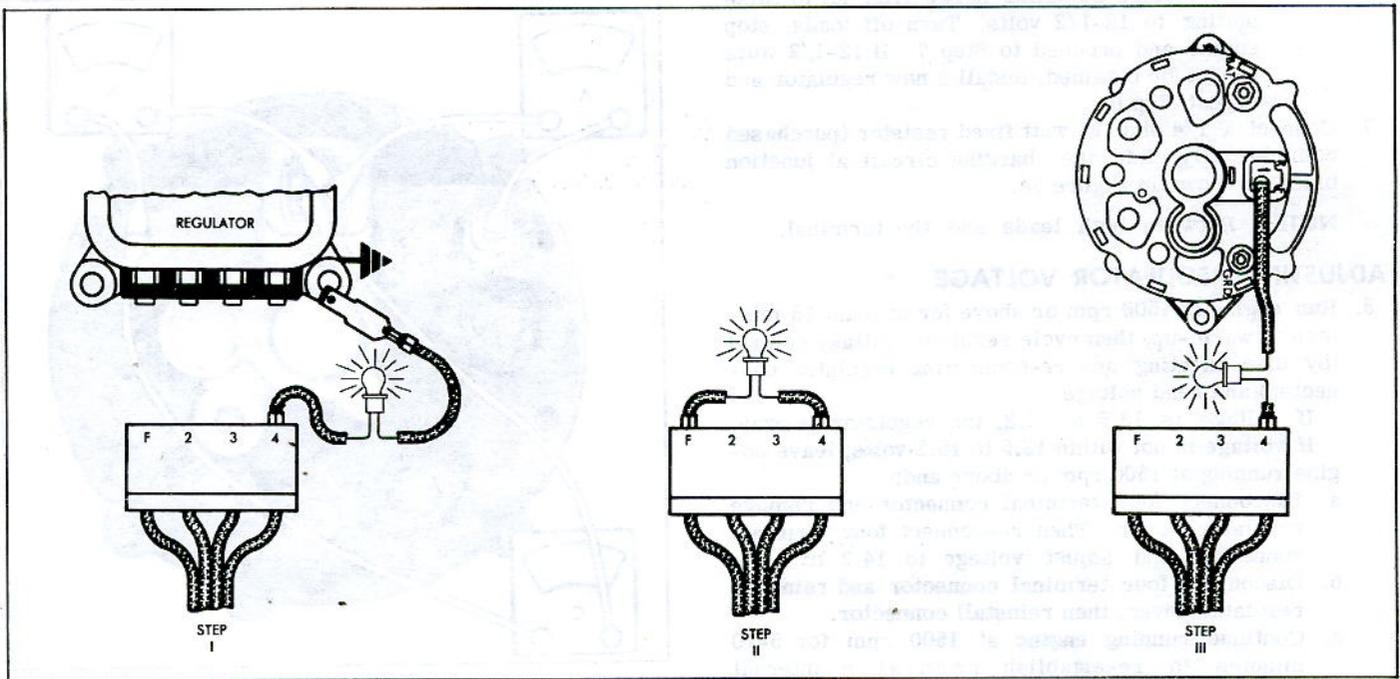

Fig. 8c—Indicator Lamp Circuit Tests
The indicator lamp circuit (fig. 8c) provides initial field excitation (causing lamp to glow). The light is cancelled by closing the field relay which applies battery voltage to both sides of bulb (bulb goes out).
- Disconnect connector from regulator and connect a jumper lead from connector terminal "4" to ground (fig. 8c, Step 1). Turn ignition switch to "ON" momentarily and note indicator lamp:
- Disconnect jumper lead at ground end and connect between connect "F" and "4" terminals, (fig. 8c, Step 2) then turn switch to "ON" momentarily and note lamp:
- Disconnect jumper at connector "F" terminal and connect "F" terminal on Delcotron (fig. 8c, Step 3), then turn switch on momentarily and note lamp: